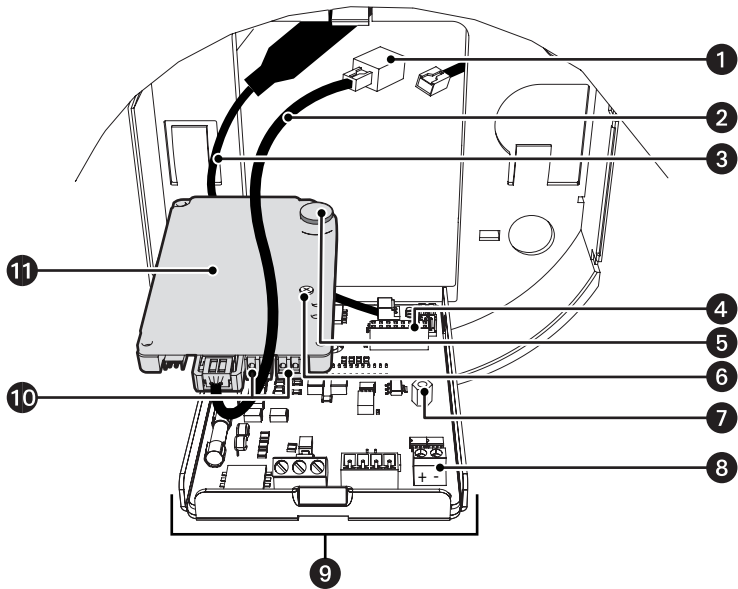

Figure 8. Removing the TXB-N
2. Remove the TXB-N from the back box circuit board (refer to Figure 8):